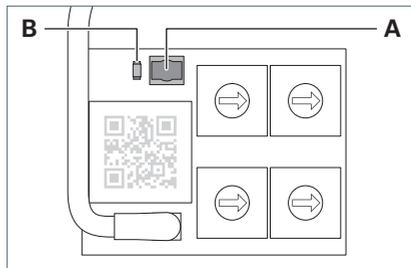

Fig. 10: Key and LED.
- ▶ Press the key **A** and keep it depressed for five seconds, see Fig. 10.